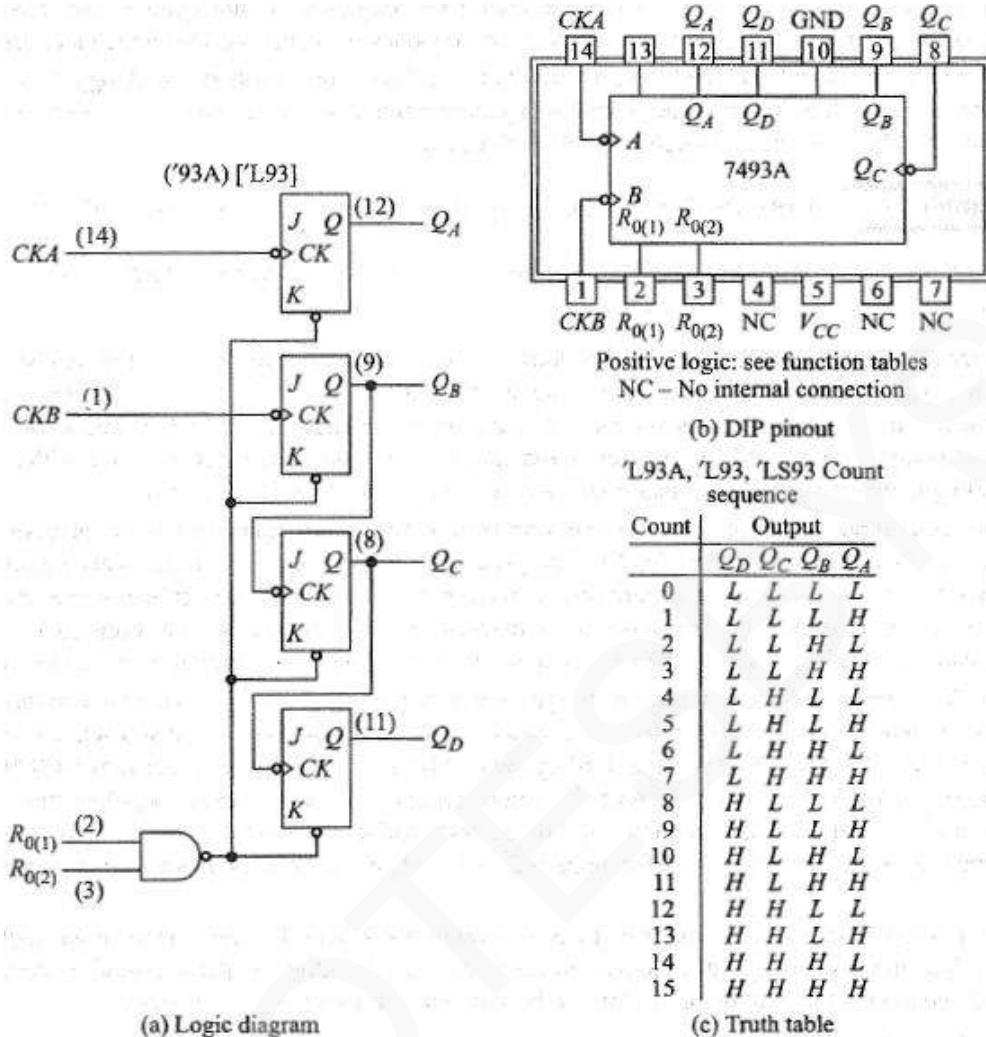

Figure 10.2:7493A
- Here is how it works (Figure 10.2):